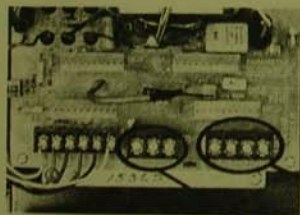

FIGURE 1
The FHP ParaJust controller operates from single phase 230 VAC input power connected to TB2 the input power terminal block. (Reference Figure 1.) (For 208 VAC operation, refer to paragraph 7.6.) A ground terminal is located on TB2 for an earth ground connection.
For the output rating refer to paragraph 2.1.3. Output voltage is proportional to output frequency, zero volts at zero frequency and 230 volts at 60 HZ. Wire size should be chosen according to local codes for motor size and for the distance between the control and the motor. Motor frame should be grounded to the controller ground lugs. Connect motor leads to TB3. Ref. Figure 1.
- 5.1.1 Refer to paragraph 4.1, Input Power Wiring. Connect the input power wires to TB2 as shown in Figure 1. Be sure that the plant power is within the specification stated in paragraph 2.1.1.